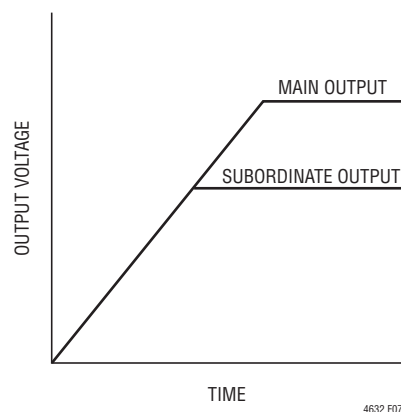

Figure 7. Output Coincident Tracking Waveform
The coincident output tracking can be recognized as a special ratiometric output tracking which the main's output slew rate (MR) is the same as the subordinate's output slew rate (SR), as waveform shown in Figure 7.